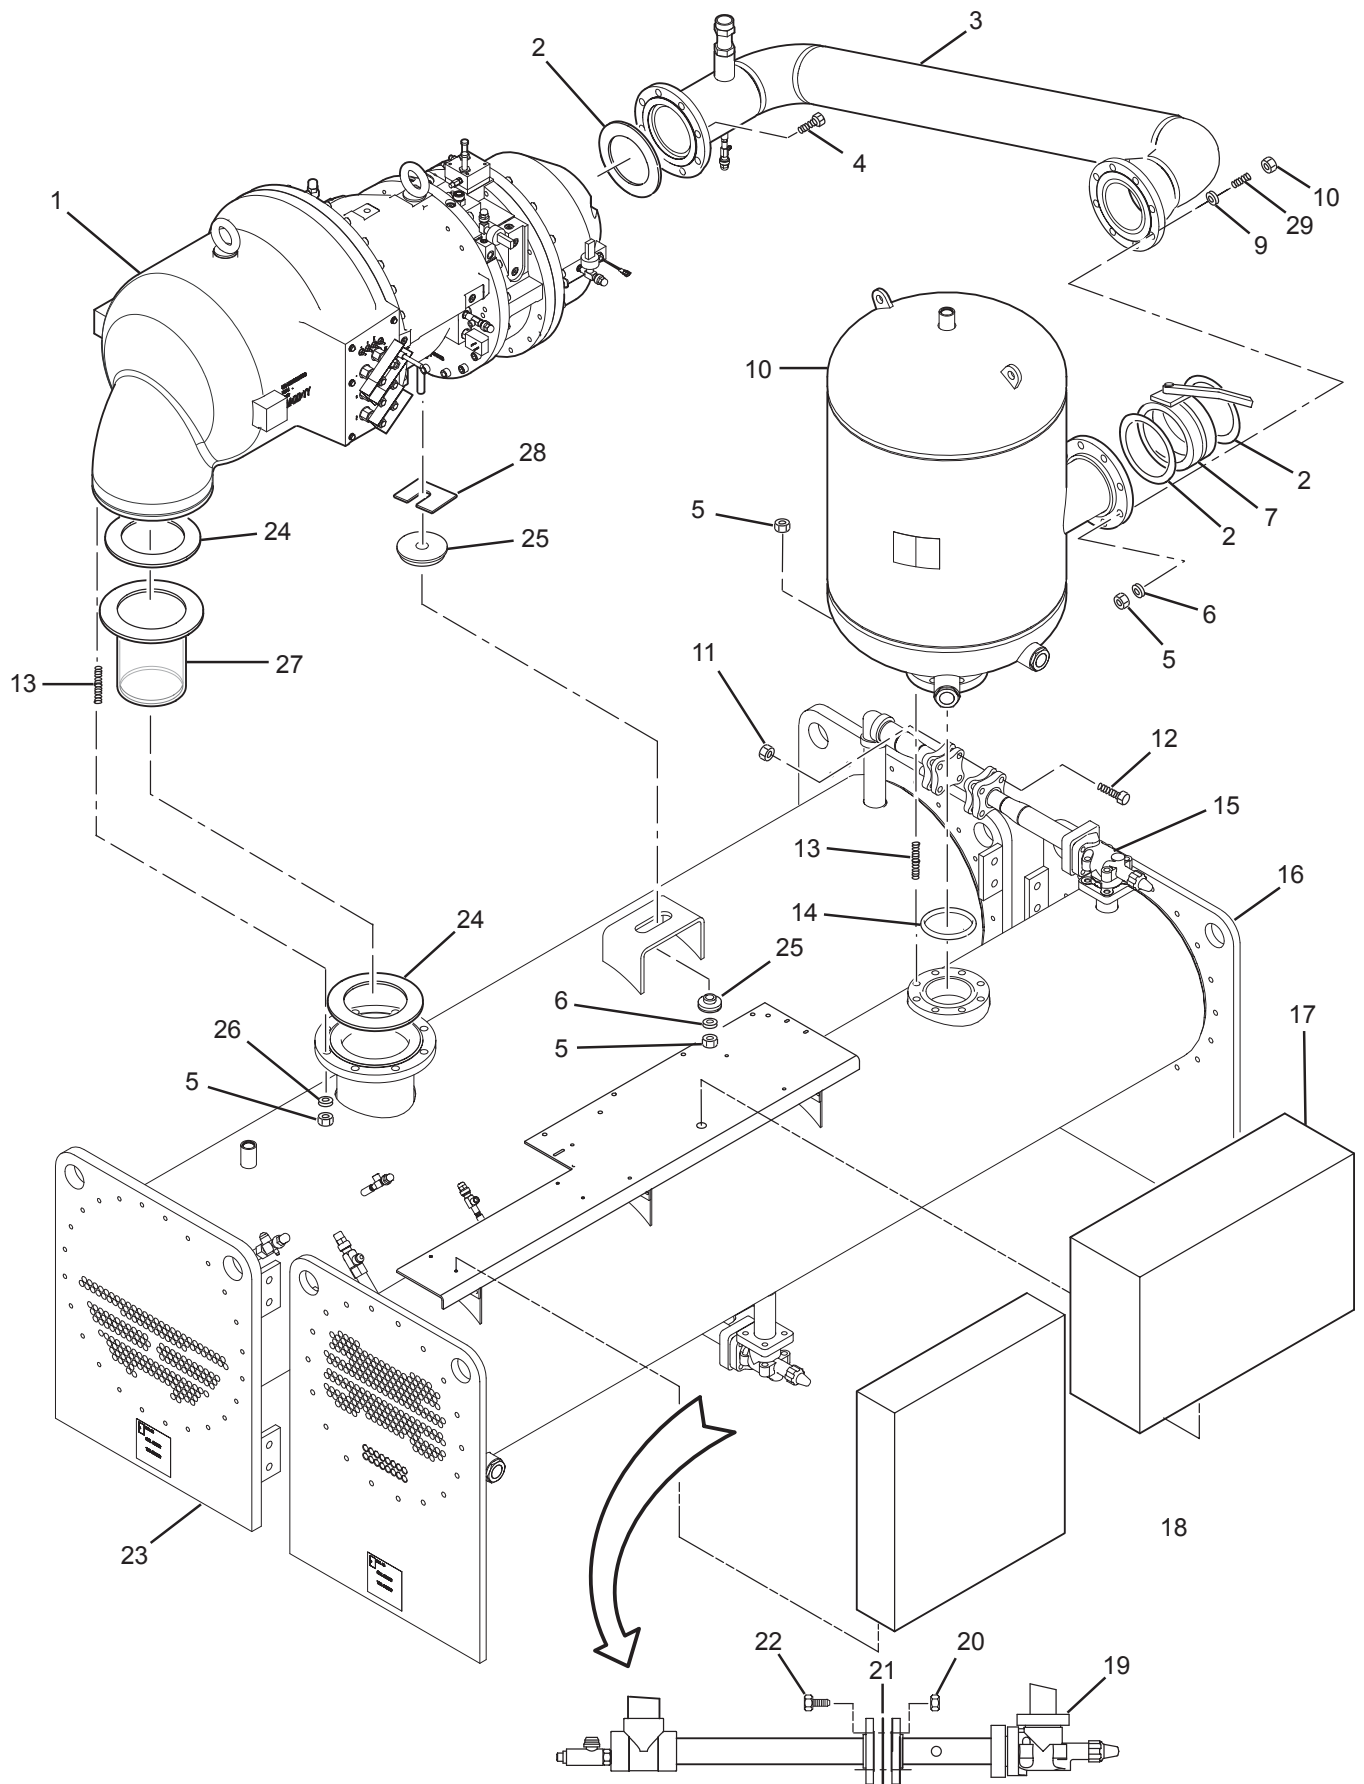

FIG. 9 - FORM 7 FIELD ASSEMBLY - EXPLODED VIEW
7. Place gasket on the evaporator suction flange and lower the compressor assembly. Guide the studs through the gasket and suction flange on top of evaporator. (Refer to Figure 9.)
8. Insert the cap screws, washers, and nuts to fasten the motor to the motor support bracket. Level the compressor-motor. If necessary, adjust the screws and nuts to level compressor, and add shims if necessary, between the motor feet and the support. (Refer to Figure 9.)
15. Assemble the Control Center to the unit (Refer to Figure. 9). Also refer to Forms 160.81-PW1 or 160.81-PW2.
16. **Solid State Starter (Optional)** – Install starter per Figure 9. Also install piping connections.